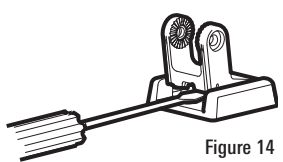

Figure 14
**NOTE:** If the pivot assembly is snapped closed over the mounting bracket, use a flat head screwdriver or similar tool to gently pry the assembly away from the mounting bracket (Figure 14).